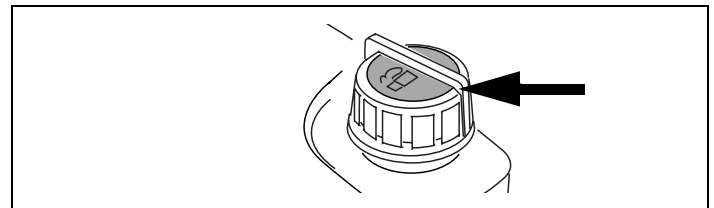

Figure 40. Fuel Fill Cap
2. Be sure fuel fill cap is on and tightened securely. See Figure 40. See Figure 14 on page 7. Afterward, continue reading instructions below.